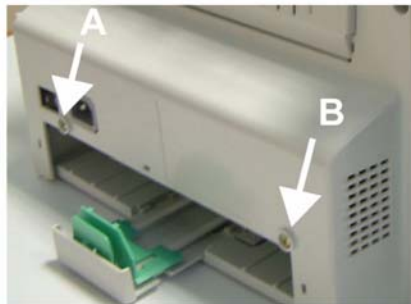

Figure 1
1. Unscrew the two back mounting screws on the back cover (A and B), Figure 1.